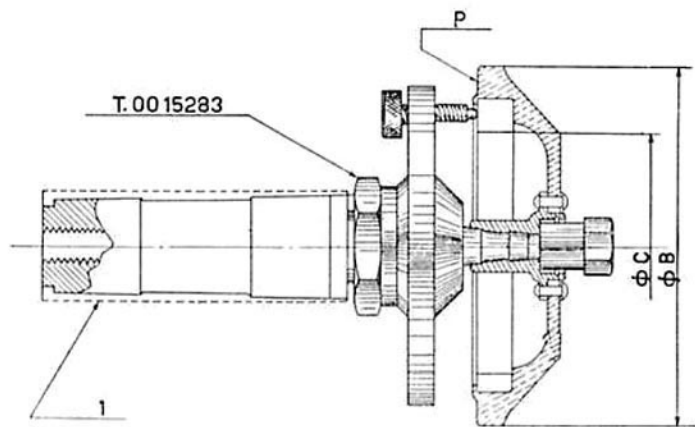

Fig. 76.
- By means of mandrel T. 0015283 and a dial gauge ensure that both dia. "B" and "C" are concentric (see Fig. 76) and plane "P" is normal to rotation axis. Skim dia. "B" on a lathe if the error exceeds 0.03 mm.